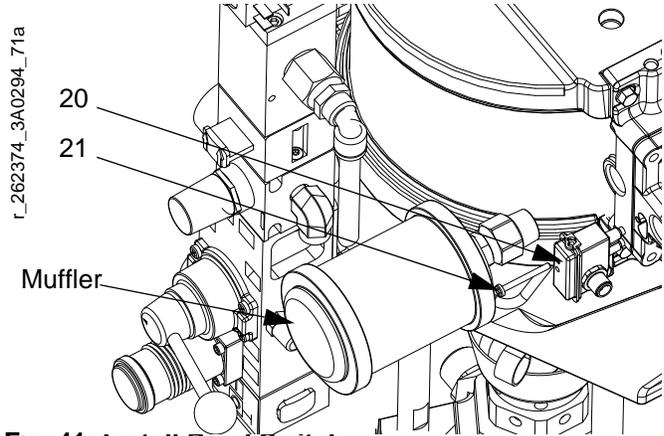

FIG. 41: Install Reed Switch
9. Install the reed switch assembly (20).
- b. Adjust the air fitting to make room for the reed switch (20).
- c. Install the reed switch (20) into the air valve as shown in FIG. 41, and secure with the screw (21).